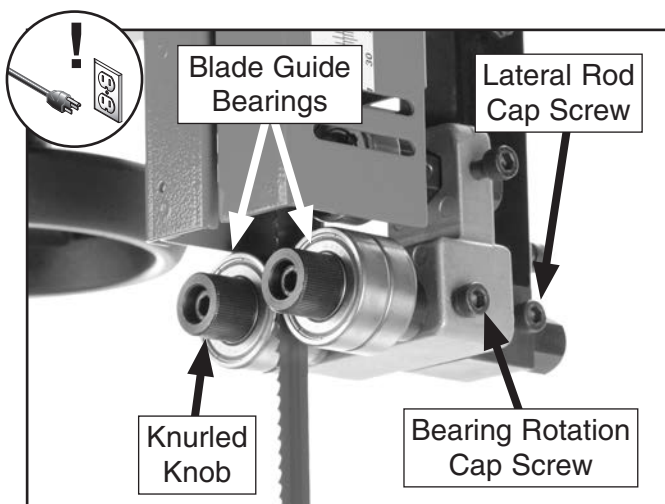

Figure 53. Blade guide controls.
2. Familiarize yourself with the blade guide controls shown in **Figure 53**.